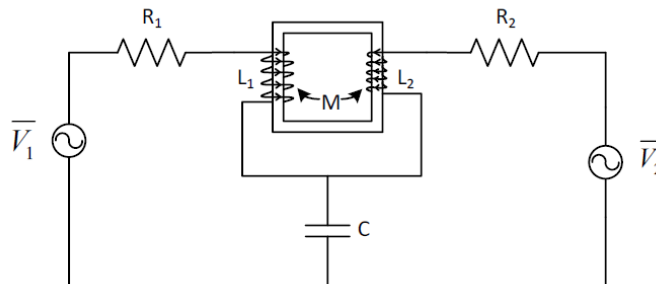

Fig. 2
2. Replace the magnetically coupled coils in Fig.2 with electrical circuit equivalent using appropriate dot convention. Obtain the voltage across the capacitor  $C$  where  $R_1 = R_2 = 5\Omega$ ,  $\omega L_1=\omega L_2=5 \Omega$ ,  $1/\omega C=0.1 \Omega$ ,  $\omega M=0.1 \Omega$ ,  $\vec{V}_1=10\text{V}$ ,  $\vec{V}_2=j10\text{V}$ .